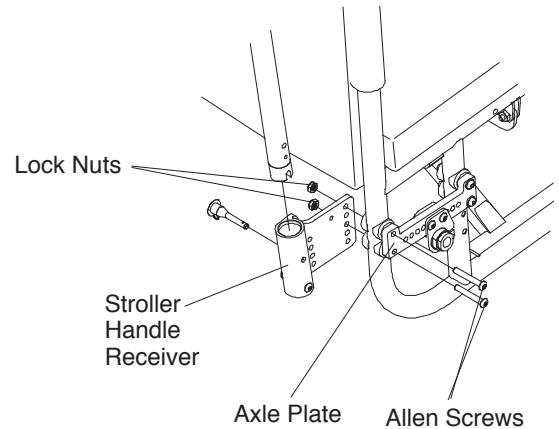

Figure 24
1. Remove the Allen Screws that secure the stroller handle receiver to the frame. See Figure 24.